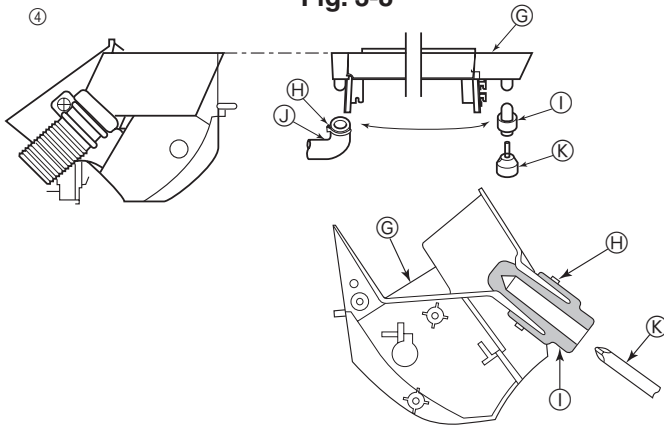
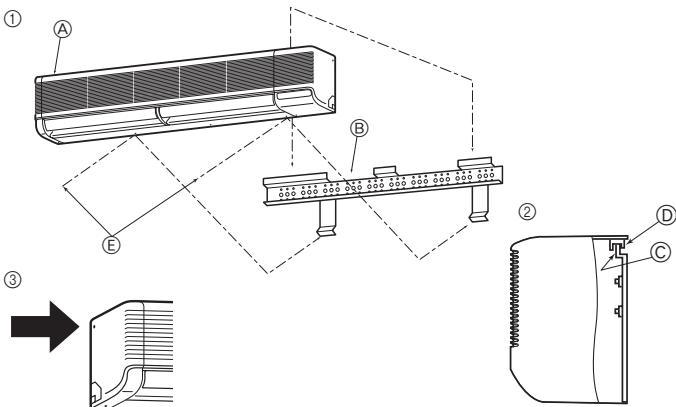

Fig. 3-9
Fig. 3-10
- ④ The drain hose can be connected at two different positions. Use the most convenient position and, if necessary, exchange the position of the drain pan, rubber plug and the drain hose. (Fig. 3-9)
- (G) Drain pan
- (H) Band
- (I) Plug
- (J) Drain hose
- (K) Screwdriver
3.3. Mounting the indoor unit (Fig. 3-10)
- ① Make sure to hang the metal catches of the indoor unit over the hooks of the wall mounting fixture.
- ② When the piping has been completed, use the securing screws to fix the indoor unit on the wall mounting fixture.